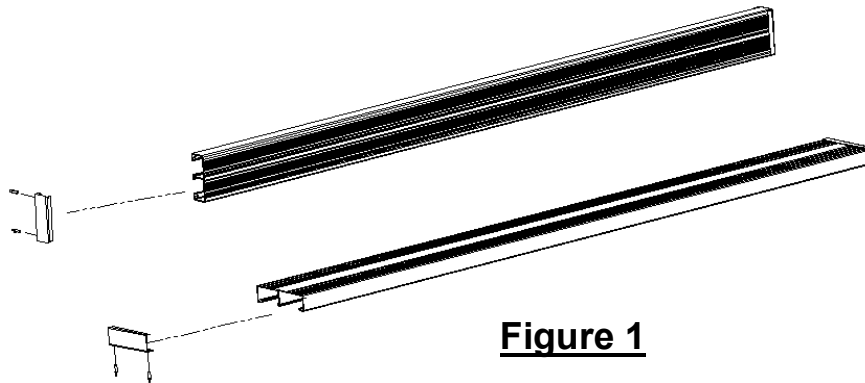

Figure 1
See Figure 1 for open front assembly. Attach header (with pre-drilled holes toward inside of shelter) to c-connector that is pre-attached to half post with (2) #12 x 1-1/4" self-tapping screw thru pre-drilled hole of header (both ends). Both screws tighten thru C-connector inside of header. Attach header to half post and then snap the post to wall section #1 and # in same manner as in step 3 below.
- A. Drill 3/16" diameter holes through 9 1/2" bench and 6" backrest using predrilled holes in end cap as guide, 2 per end cap. **See Figure 1**